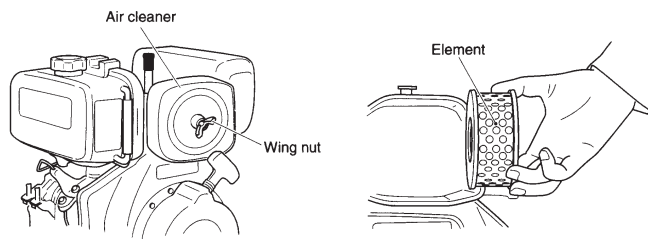

Figure 21. Engine Air Filter and Element
2. To clean or replace air filter loosen the wing nut on the air filter housing (Figure 21) remove the cover and take out air filter cartridge. If only cleaning of the air filter is desired blow through the air filter cartridge from the inside, moving a jet of dry compressed air up and down until all dust is removed.